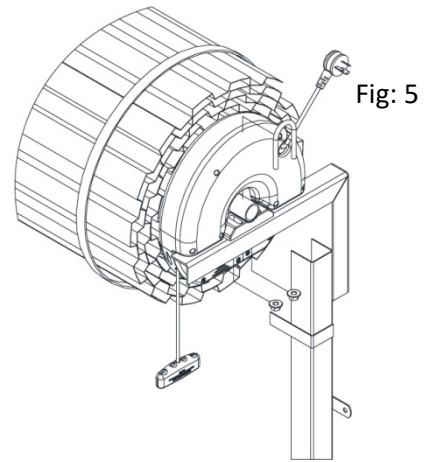

Fig: 5
- j) Locate the Drive unit on the bracket and fit 'U' bolt provided in the fitting kit. Tighten the 'U' bolt with two nuts provided (Fig 5).